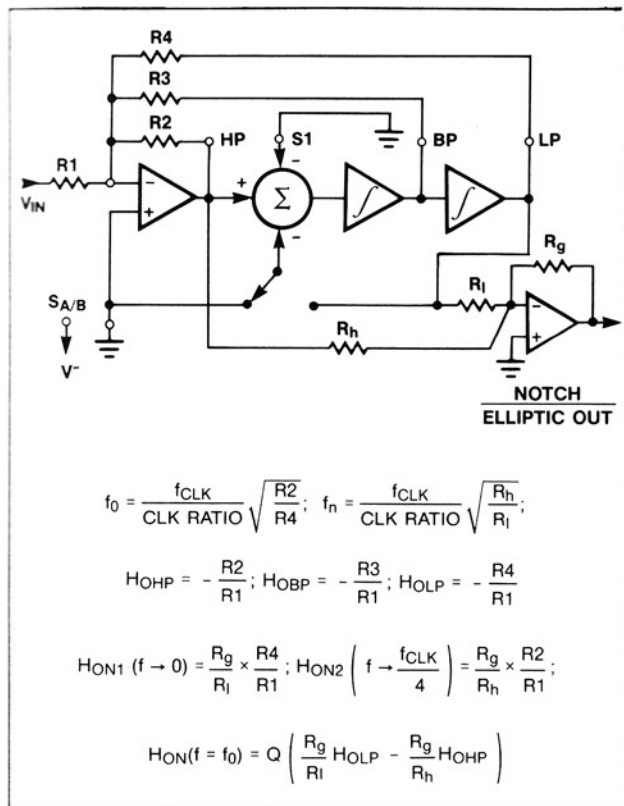

Figure 14. Mode 3a: 2nd-Order Filter Providing Highpass, Bandpass, Lowpass, Notch
**MODE 3A** (Figure 14) allows the most flexible tuning of  $f_0$  and  $f_N$  for pole-zero filters such as elliptics. Resistor ratios control the notch location which can be tuned above or below  $f_0$ . In Mode 3A, highpass and lowpass outputs are summed by the input amplifier of the next filter stage, or by one of the other on-chip amplifiers, to form a notch.